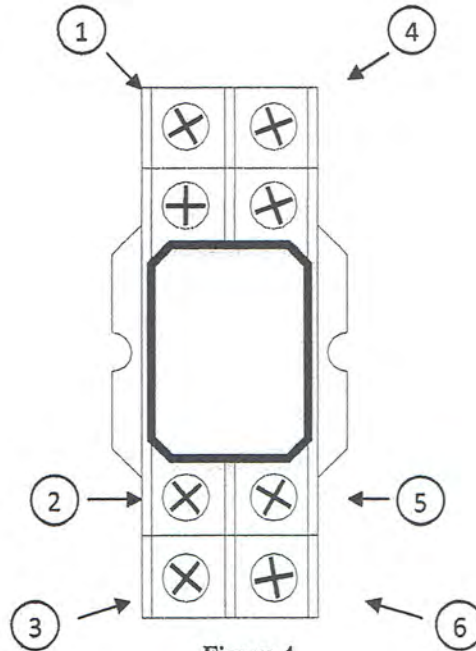

Figure 4
For section A of this relay, the terminal identified as item 1 in figure 4 is the Common contact, the terminal identified as item 2 is the Normally Closed (NC) contact and the terminal identified as item 3 is the Normally Open (NO) contact.